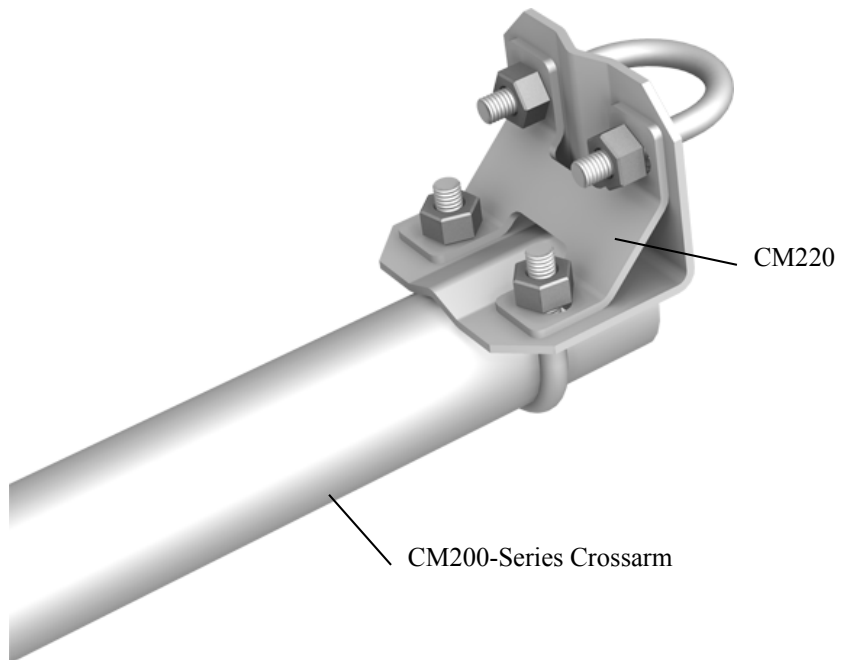
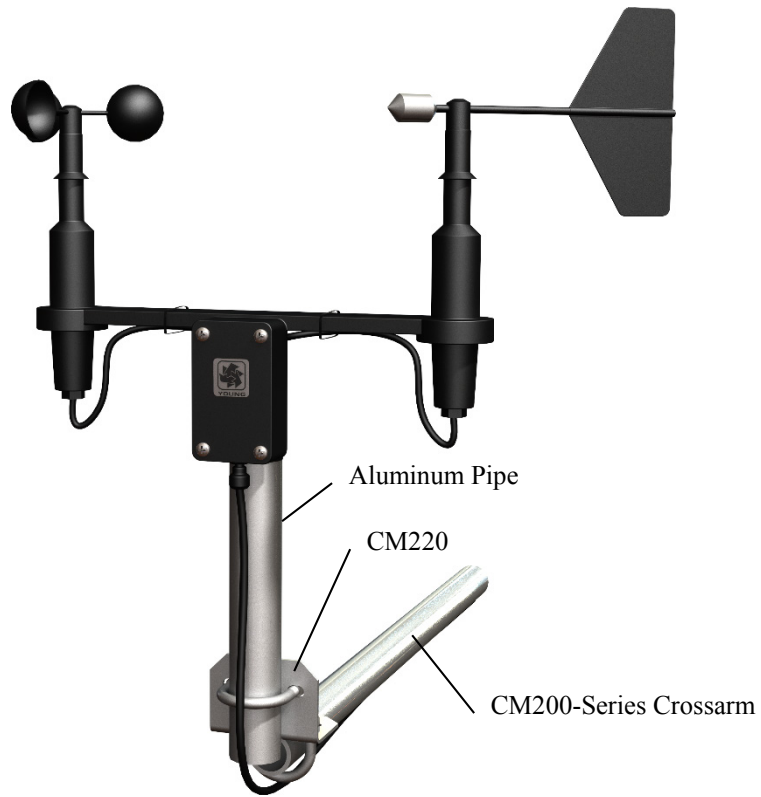
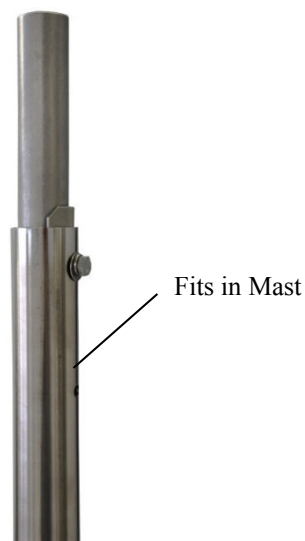
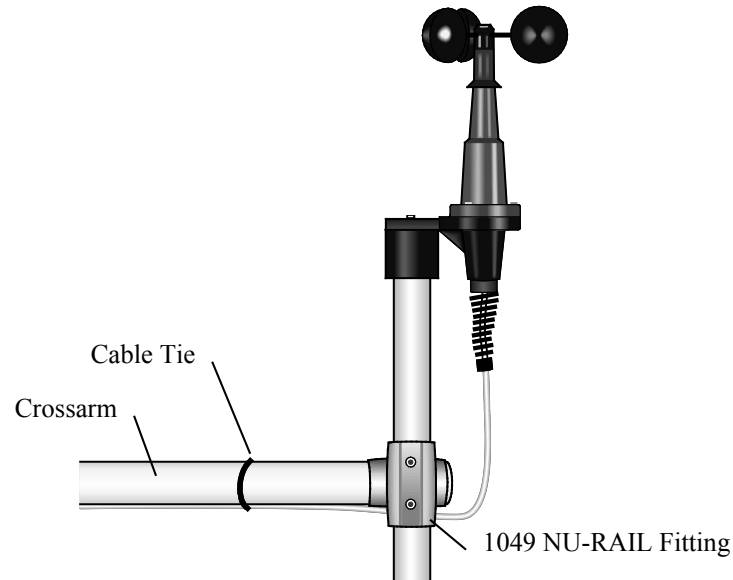

FIGURE 4-1. CM200-Series Crossarm with CM220 Right Angle Mounting Bracket
FIGURE 4-2. 03002 mounted to CM200-Series Crossarm with CM220
FIGURE 7-1. The CM216 allows an 03002 or 03101 to mount atop the mast of a CM110, CM115, or CM120 tripod
FIGURE 7-2. 03101 mounted to a crossarm via a 1049 NU-RAIL
- CM220 Right-Angle Mounting Kit (FIGURE 4-1 and FIGURE 4-2),
The 03002 mounts to a standard 1.0 in. IPS schedule 40 pipe (1.34 in. O.D.). A 12" long mounting pipe ships with the 03002. The mounting pipe typically fastens to a CM200-series crossarm via the CM220 mount or 17953 NU-RAIL fitting. Section 4, *Quickstart*, describes mounting the 03002 using a CM220 mount or a 17953 NU-RAIL fitting. The 03002 can also be mounted at the top of a CM106B, CM110, CM115, or CM120 tripod with the CM216 (see FIGURE 7-1). The CM216 extends 10 cm (4 in) above the mast of the tripod.
3. Secure the 3/4 inch IPS, 10 inch long, threaded aluminum pipe (pn 7623) to the CM220 mount (see FIGURE 4-1 in Quickstart), 1049 NU-RAIL (FIGURE 7-2), or CM216 (see FIGURE 7-1).